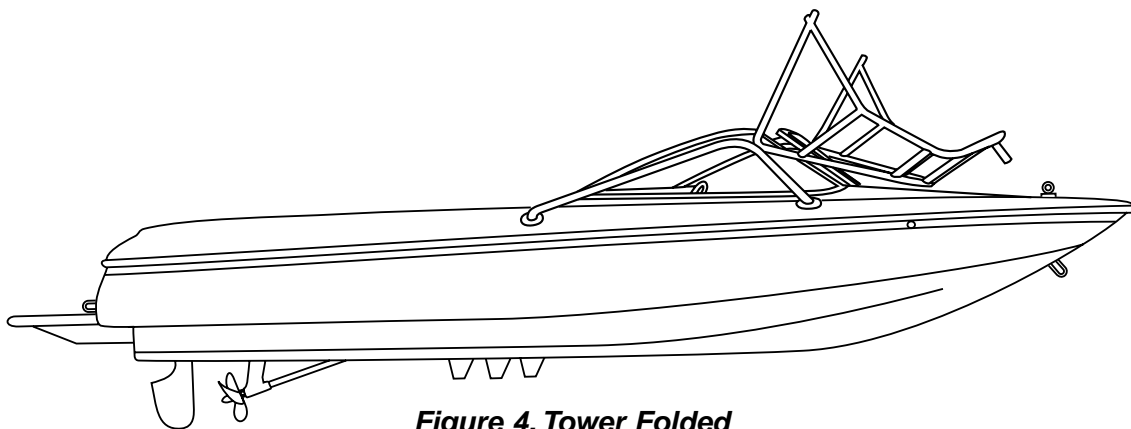

**Figure 3. Release Fasteners**
1. Remove the two Release Fasteners (1, Figure 3) from each side of the tower.